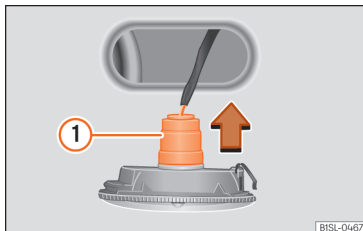

Fig. 94 Side turn light: bulb change.
3. Remove the bulb holder with the bulb in the direction of the arrow »» Fig. 94 ①.